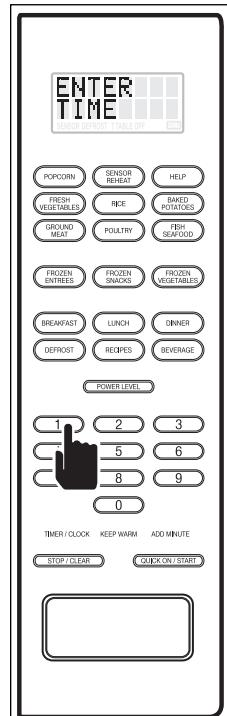

Figure 3-25.
2. Press the number 1 key and "ENTER TIME" will appear on the digital display (See Figure 3-25).